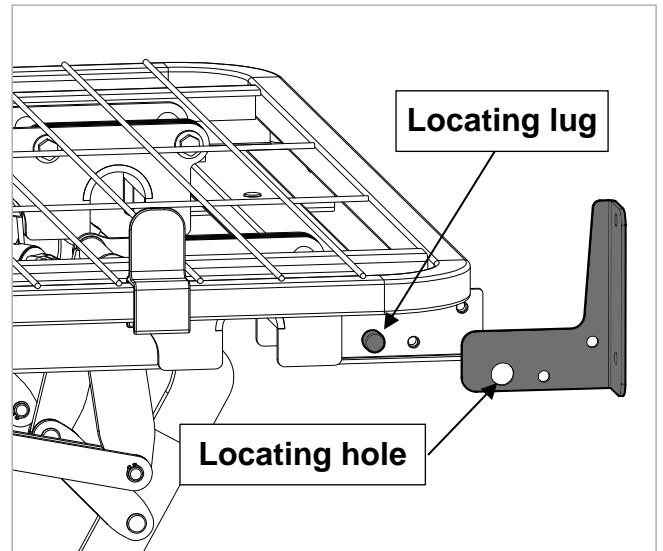

Figure 8.9
16. Fit the headboard mounting brackets to the channel sections on either side of the head end of the bed using M8 x 20mm bolts and washers. Ensure the locating hole on the brackets fits over the locating lug in the channel (see Figure 8.9).